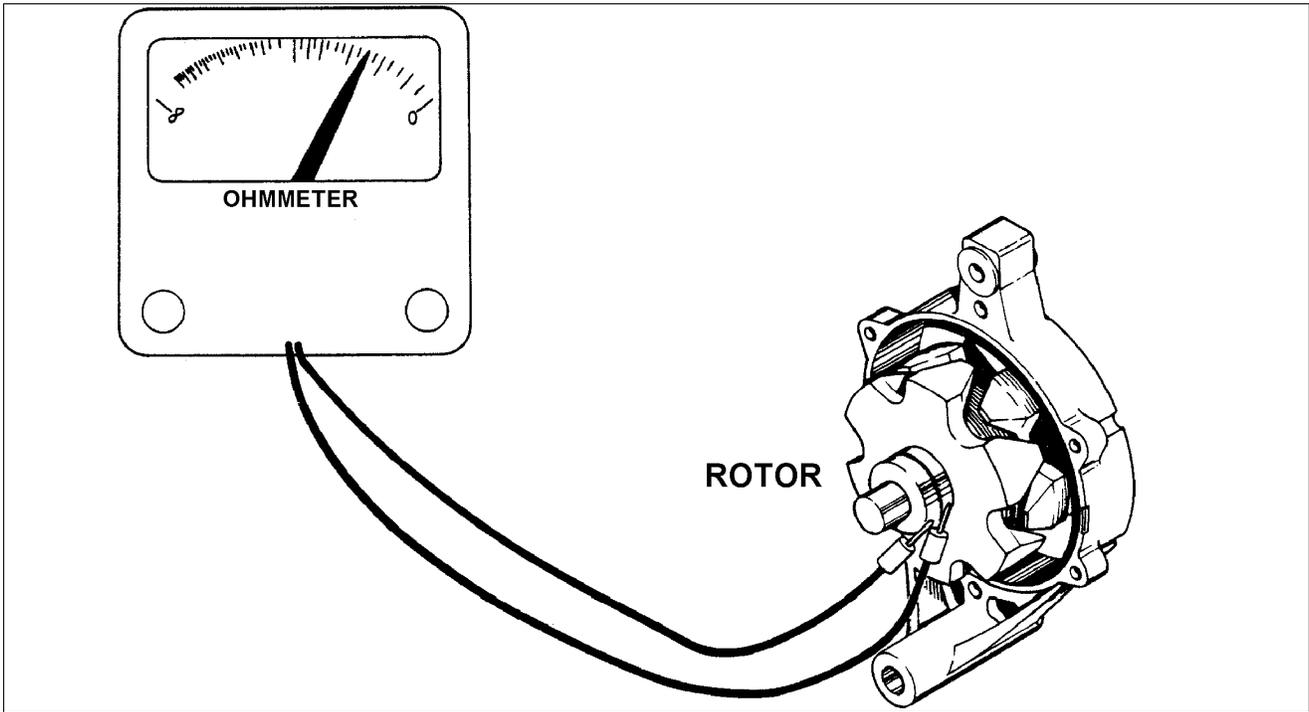

Figure 24-13. Rotor Continuity Test
- (2) Rotate the front bearing on the drive end of the rotor shaft. Check for any scraping noise, looseness, or roughness. Look for excessive lubricant leakage. If any of these conditions exist, replace bearing.
- (3) Inspect the rotor shaft rear bearing surface for roughness or severe chatter marks. Replace the rotor assembly if the shaft is not smooth.
- (4) Place the rear bearing on the slip-ring end of the rotor shaft and rotate the bearing. Make the same check for noise, looseness, or roughness as was made for the front bearing. Inspect the rollers and cage for damage. Replace the bearing if these conditions exist, or if the lubricant is lost or contaminated.
- (5) Check the pulley and fan for excessive looseness on the rotor shaft. Replace any pulley or fan that is loose or bent out of shape.
- (6) Check both the front and rear housings for cracks, particularly in the webbed areas, and at the mounting ear. Replace damaged or cracked housings.
- (7) Check all wire loads on both the stator and rotor assemblies for loose or broken soldered connections and for burned insulation. Resolder poor connections. Replace parts that show signs of burned insulation.
- (8) Check the slip-rings (brush contacts) for nicks and surface roughness. Nicks and scratches may be removed by turning down the slip rings.
- (9) Replace brush assembly if brushes are worn beyond 5/16 inch minimum length.
- c. Rotor Continuity Test (Refer to Figure 24-13.)
- (1) Separate front housing and rotor assembly from rear housing by removing four housing-thru bolts and separating rear and front housings. Springs and brushes are not retained by brush holder when housings are separated.
- (2) Set the ohmmeter selector switch on resistance scale 1 and zero meter.
- (3) Touch one lead of ohmmeter to each segment of the slip ring. The meter should read 3 to 5 ohms.
- (4) Readings higher than 5 ohms indicate a damaged solder connection at the slip rings or a broken wire.
- (5) Readings lower than 3 ohms indicate a shorted wire or slip ring.
- (6) Replace the rotor if repairs cannot be made.